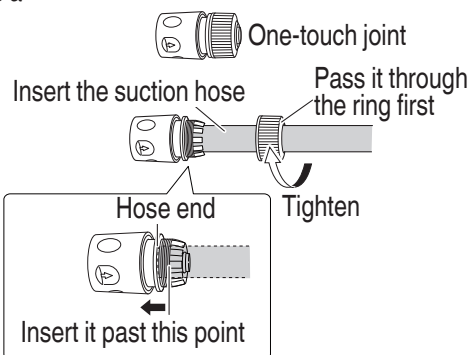

Fig. 14
2. Attaching the one-touch joint (black) to the suction hose (Fig. 14)